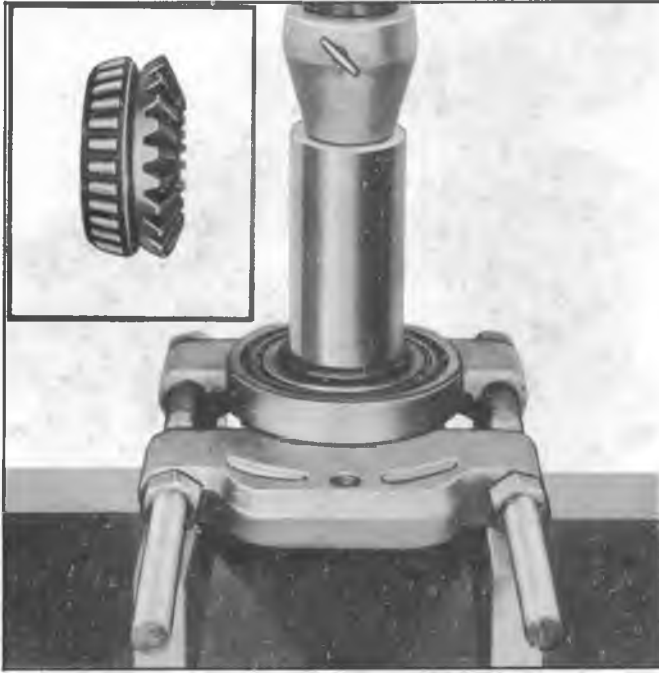

Fig. 20M--Removing Output Shaft Side Gear and Bearing
- b. Support bearing on split plates and using 2 1/2" O.D. bar against hub of gear, press gear out of bearing as shown in Figure 20M.